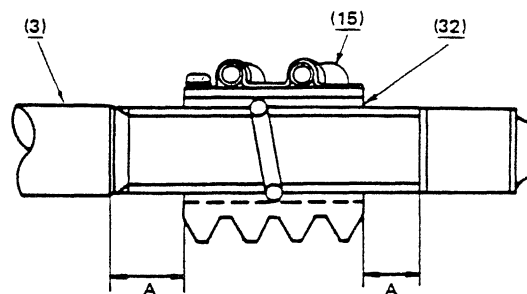

Figure 14.
6-1-1. Install shaft (3) into ball nut (32), and move the ball nut to the center of the worm as shown in Figure 14.